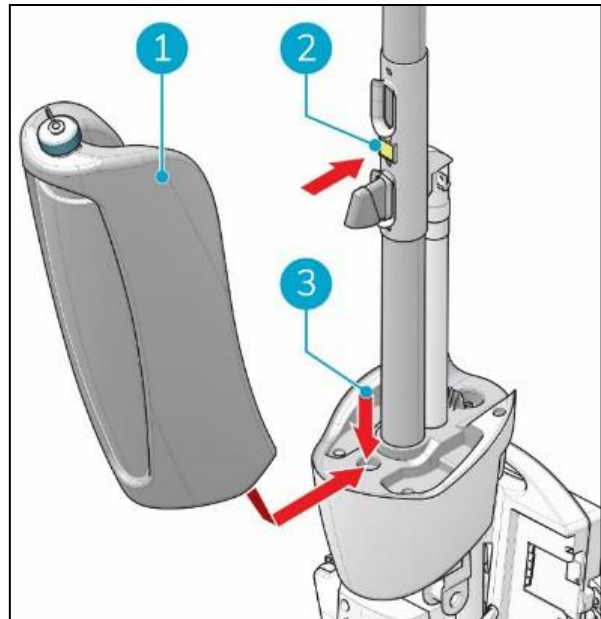

Figure 35
14. Put the bottom of the recovery tank (Figure 35, pos 1 and pos 3) on the front of the i-mop® XL Plus.
15. Push the top of the tank into place until you hear a "click" sound, the magnet (Figure 35, pos 2) will lock the recovery tank into place.